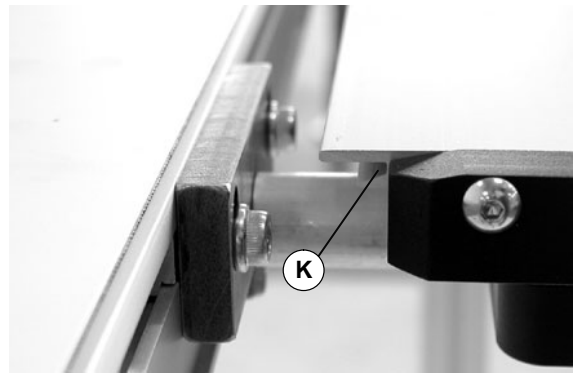

Figure 9
8. Orient table such that pocket (K of Figure 9) is toward the conveyor.